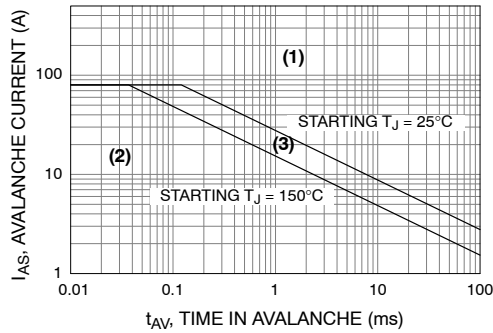

Figure 3. UIS Capability, FDP050AN06A0
The UIS Rating System is very useful in dealing with avalanche situations. There are three areas in the UIS SOA graph as indicated in Figure 3: (1) above and right of the 25 °C line, (2) below and left of the maximum junction temperature line, (3) in between the two lines. (1) and (2) are easy to determine: the device is within the UIS rating ((2)), or beyond the rating ((1)). But the junction temperature of the Power MOSFET at the start of the UIS pulse is required to determine (3). The junction temperature analysis methods will be discussed later in detail.